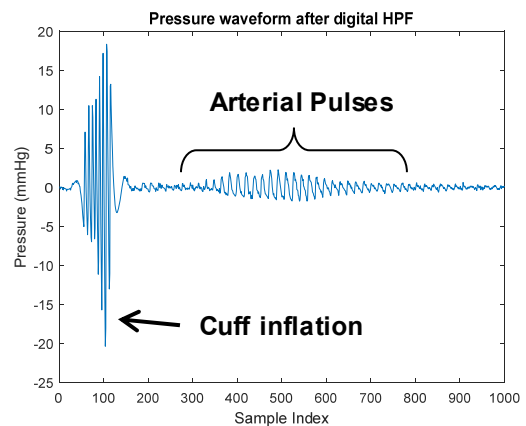

Fig. 10: Pressure waveform after digital high-pass filter.
- You should end up with a waveform that resembles Fig. 10.